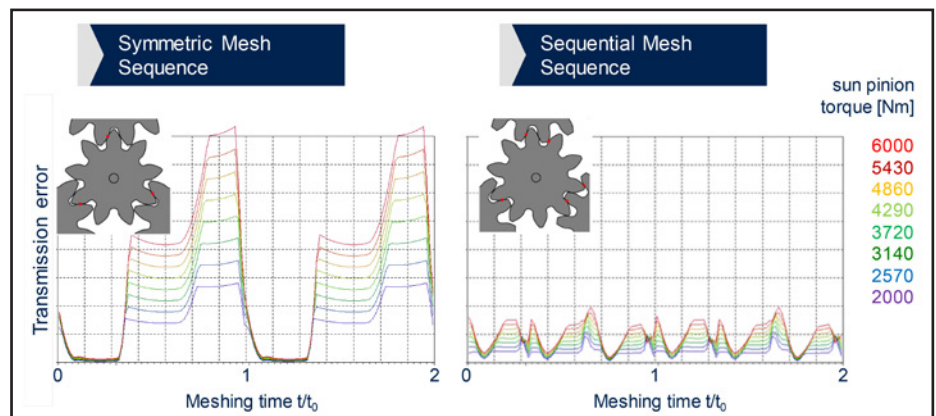
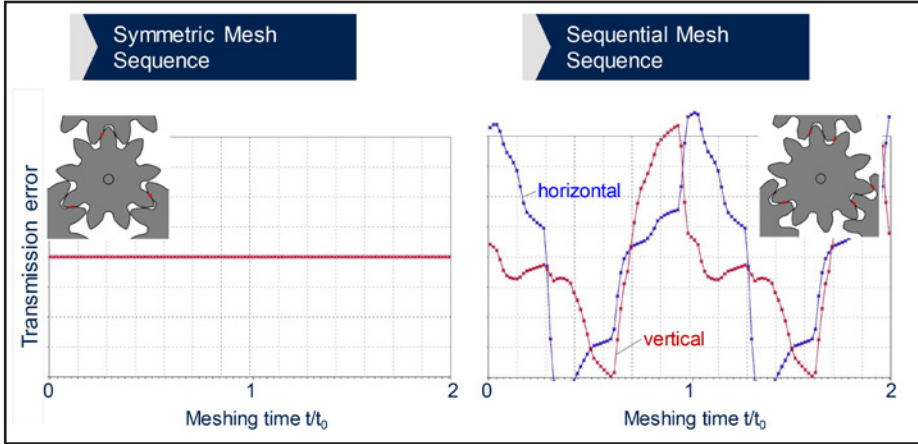

Figure 11 Transmission error between sun and ring gear (unmodified) — torsional excitation.
Figure 12 Radial displacement of sun pinion (unmodified) — lateral excitation.
**Comparison of symmetric and sequential mesh sequence.** It can be derived from the statements in the previous paragraphs that either lateral excitation (with symmetric mesh sequence) or torsional excitation (with sequential mesh sequence) can be optimized by just the selection of mesh sequence. The comparison is shown in Figure 11 and Figure 12.